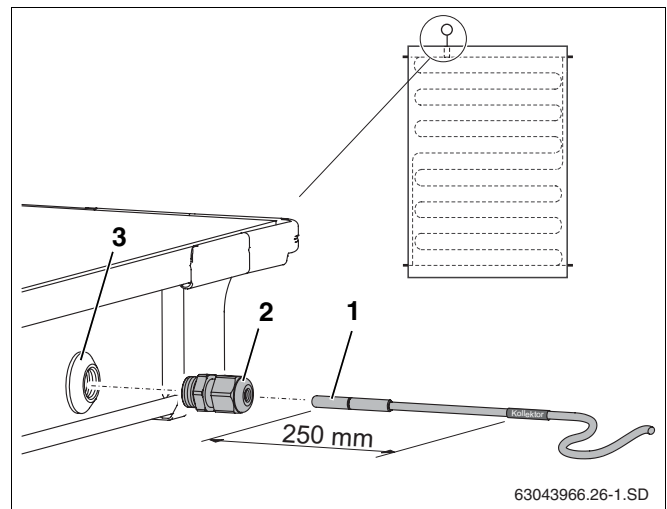

Fig. 51 Pushing the collector sensor into the collector
For perfect functioning of the solar heating system, the collector sensor (Fig. 51, **Item 1**) needs to be inserted into the sensor guide tube as far as it will go (approx. 250 mm).
- ▶ Using the collector sensor or screwdriver, push through the sealing membrane on the sensor bush (Fig. 51, **Item 3**).
- ▶ Screw clamped joint (Fig. 51, **Item 2**) into sensor bush.
- ▶ Tighten clamped joint (Fig. 51, **Item 2**), counterhold if necessary.
If you accidentally push through the sensor bush (Fig. 51, **Item 3**) on the wrong collector, it can be resealed using the plug from the connection kit. You must first remove the nut in the sensor bush using the cable gland (Fig. 51, **Item 2**).